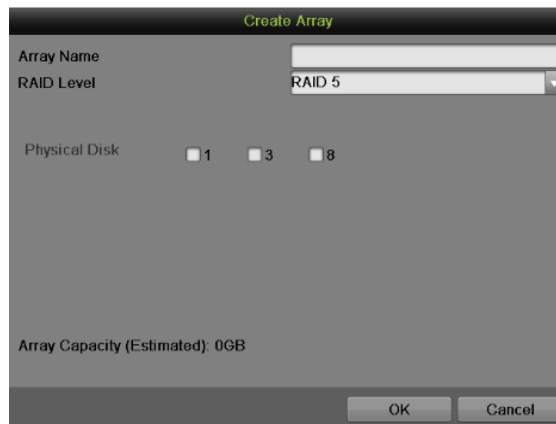

Figure 128 Create Array Interface
1. Enter the Physical Disk interface by going to Menu > System Configuration > RAID > Physical Disk, as shown in Figure 128.